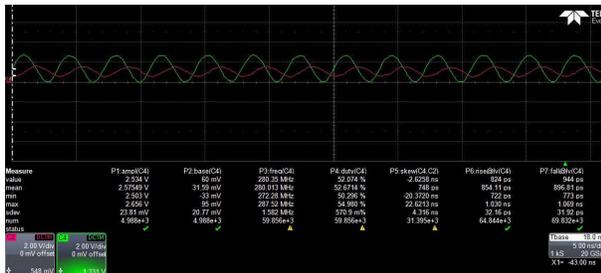

Figure 3-9. TXV Waveform (15 pF 1.8 V to 3.3 V Up Translation at 280 MHz, 25°C)
- Figure 3-9 shows typical bench data for TXV (1.8 V red inputs, 3.3 V green outputs) running at 560Mbps (280 MHz) with stable VOH (as high as 2.6 V) and stable VOL (as low as 32 mV).